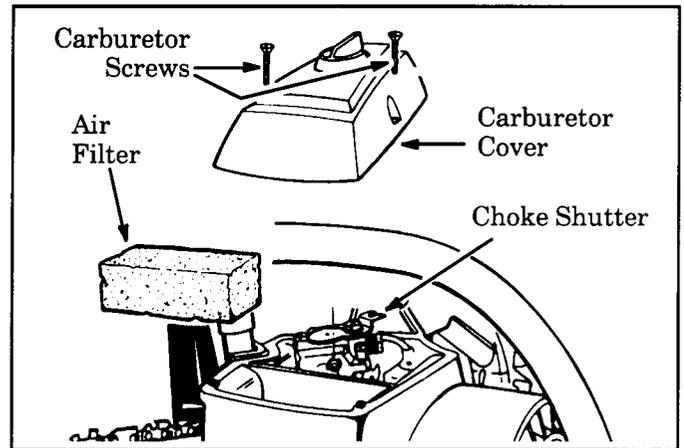

Figure 43
2. Remove the carburetor cover screws and carburetor cover. Figure 43 .